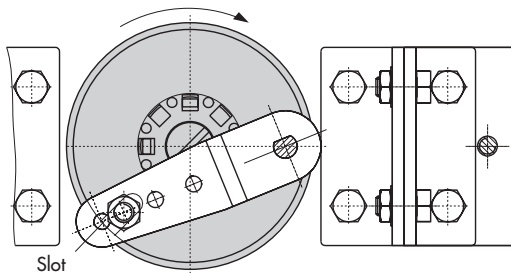

Fig. 8 · Attachment to rotary actuators
1. Place follower clamp (3) on the slotted actuator shaft or the adapter (5).
2. Place coupling wheel (4) with flat side facing the actuator on the follower clamp (3). Refer to Fig. 8 to align slot so that it matches the direction of rotation when the valve is in its closed position.
4. Screw the bottom pair of brackets (10.1) with the bends pointing either to the inside or to the outside (depending on the actuator size) to the actuator case. Position top pair of brackets (10) and screw tight.
5. Mount connecting plate (6) or pressure gauge bracket (7) with pressure gauges
6. Unscrew the standard follower pin (2) from the positioner's lever **M** (1). Use the metal follower pin (Ø5) included in the mounting kit and screw tight into the bore for pin position **90°**.
7. Place positioner on the top pair of brackets (10) and screw tight. Considering the actuator's direction of rotation, adjust lever (1) so that it engages in the slot of the coupling wheel (4) with its follower pin (see Fig. 8). It must be guaranteed that the lever (1) is parallel to the long side of the positioner when the actuator is at half its angle of rotation.